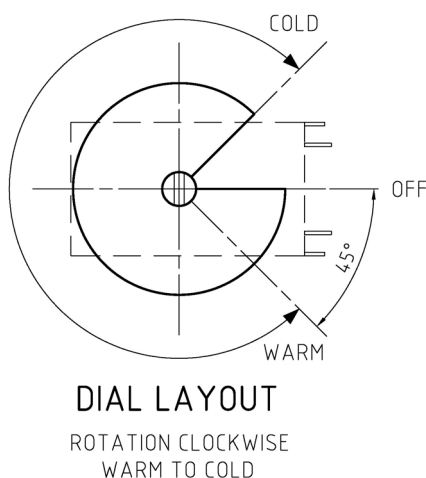

figure 2
- to increase temperature: rotate the setting screw counterclockwise (see figure 2).
- to increase temperature: rotate the setting screw counterclockwise (see figure 2)